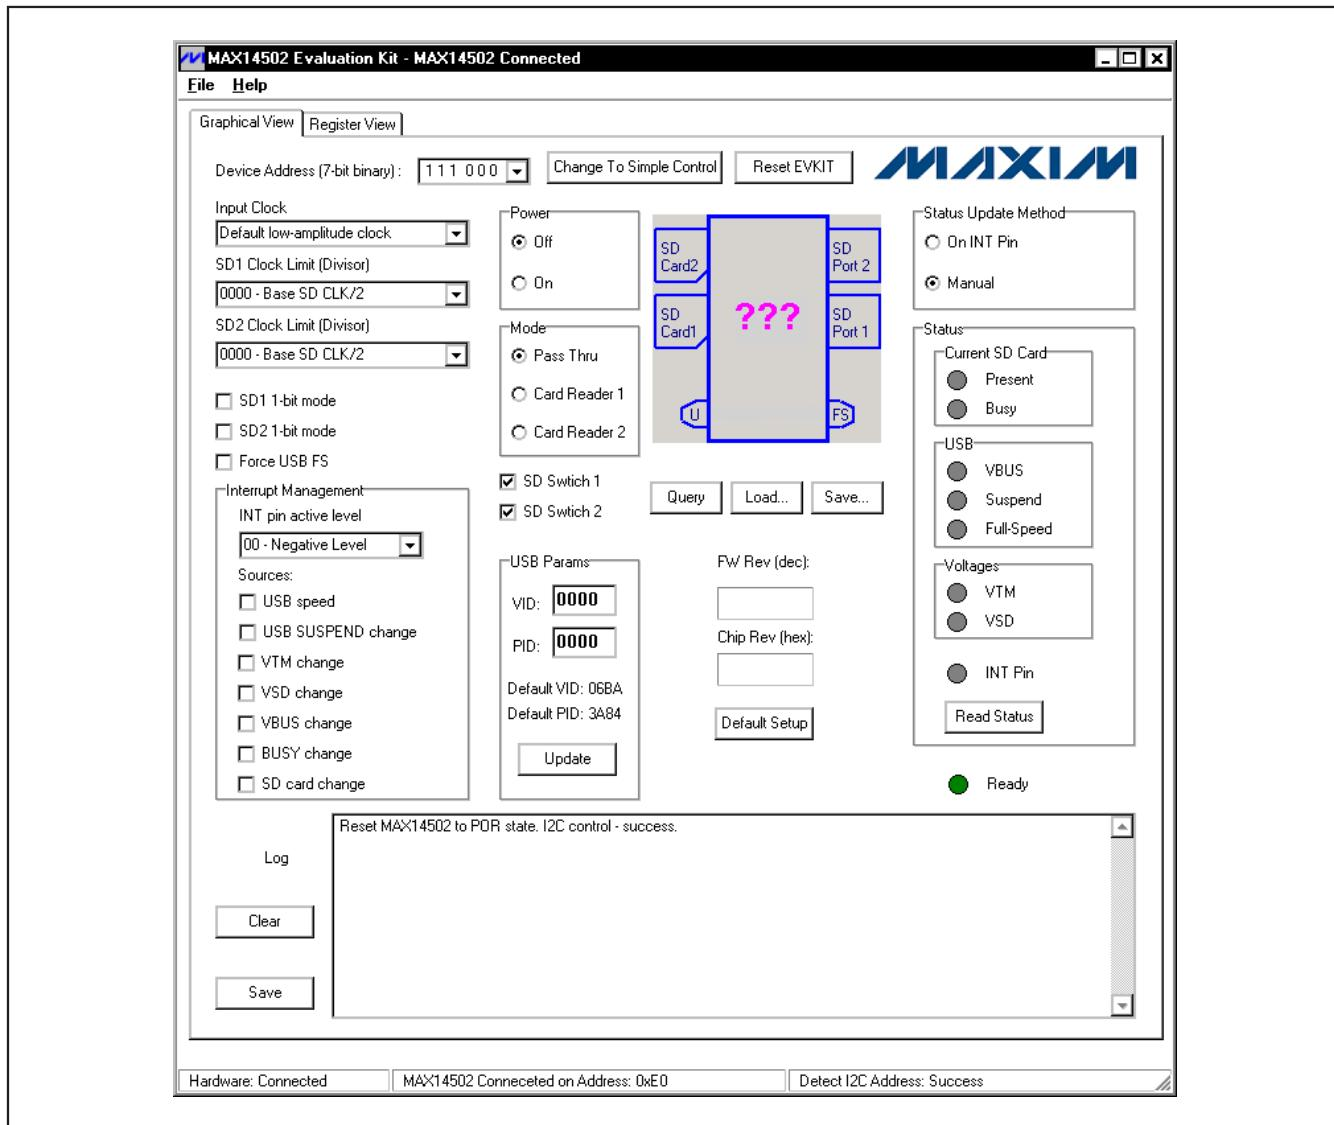

Figure 2. MAX14502 Software Main Window (Graphical View Tab)
- 17) Press the **Change To I²C Control** button to set the MAX14502 in I²C control mode. Verify that **MAX14502 Connected on Address: 0xE0** is displayed on the status bar. All the I²C register controls are available on the GUI, as shown in Figure 2.
When the **Graphical View** tab (Figure 2) is selected, a user has access to all of the I²C registers through the on-board USB-to-I²C bridge.